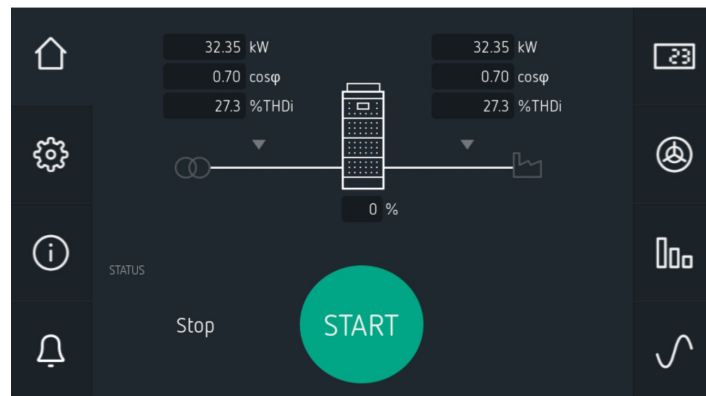

Figure 49: Home screen.
When the device has been powered the screen in **Figure 49** appear on the display.
- ② Go into the numeric values screens, , and on the screen that shows the voltage and current ("6.2.5.- VOLTAGE / CURRENT / FREQUENCY"):
- ③ Go into the numeric values screens, , and on the screen that shows the load parameters ("6.2.7.- POWER AND COS φ OF LOAD"):
- ④ Go back to the home screen of the device, , **Figure 49**, if there is no problem with the connections, the upper area should show the message "**Stop**".